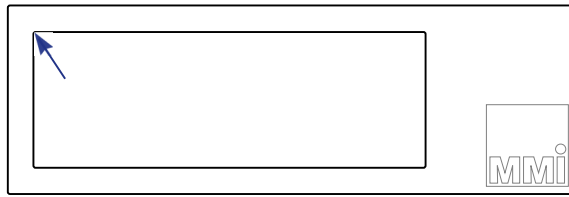

Figure 5.17: Suggested positions on a mmi Membrane slide to precisely adjust the stage insert position
5. scan an overview image in slide 1, see 5.4.4 and adjust the image to the slide position by shifting the whole insert. To get a precise positioning we recommend to adjust the image of the left upper corner of a membrane slide (Fig. 5.17) or the image of wells of an ampligridd to the displayed slide.